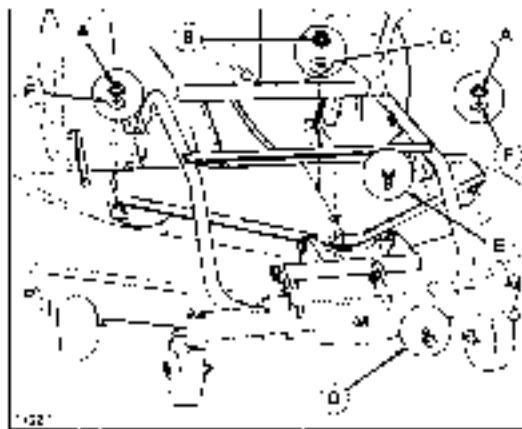

Figure 21. Bell Cover Removal
2. Remove hardware securing bell covers to mower deck. Refer to figure 21. Remove bell covers (bell diagram is located on underside of bell covers).